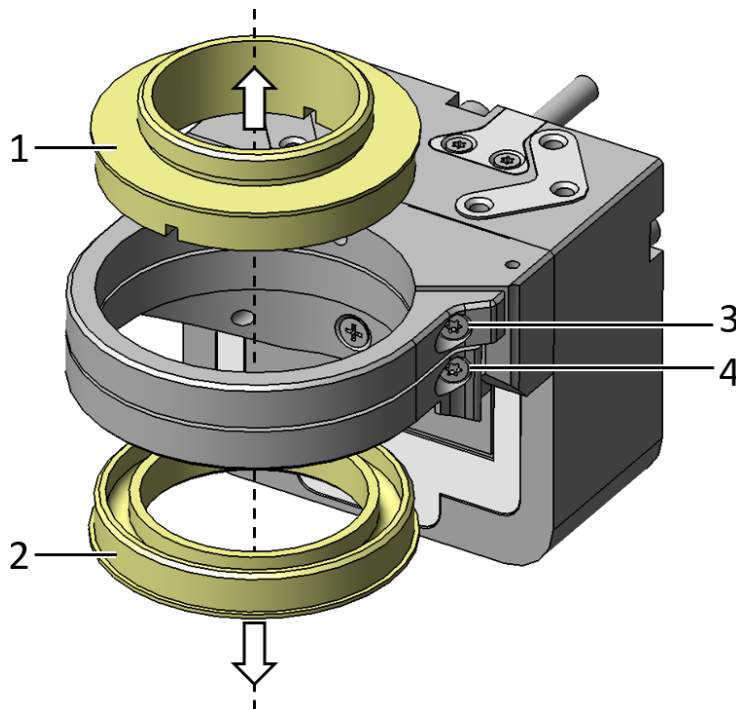

Fig. 6: Schematic diagram of parts relevant for disassembling
2. Remove the objective side thread adapter: Hold tightly to the objective side thread adapter and use the Torx key to loosen the screw for the objective side thread adapter (refer to Fig. 6, p. 22).
3. Remove the P-725: Hold the P-725 tightly and use the Torx key to loosen the screw for the microscope side thread adapter (refer to Fig. 6, p. 22).